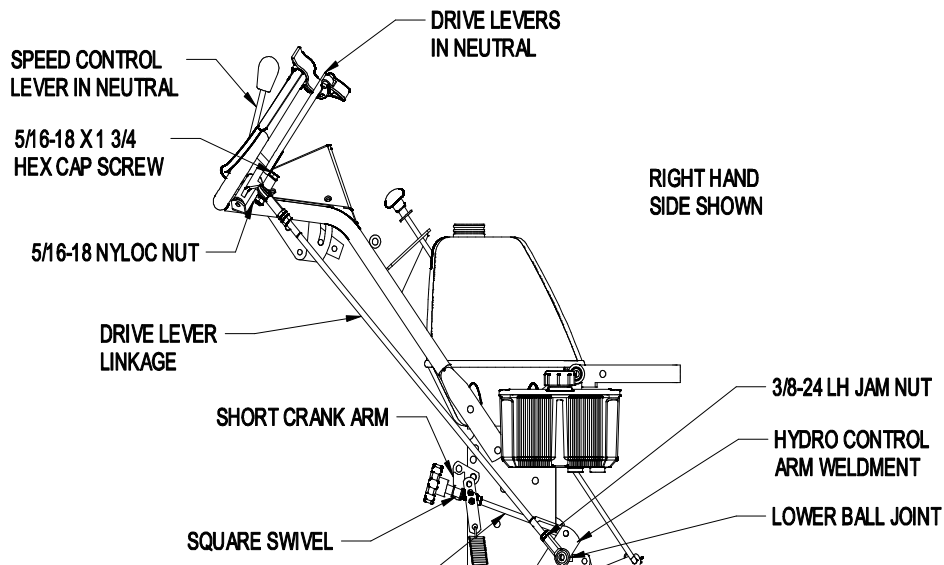
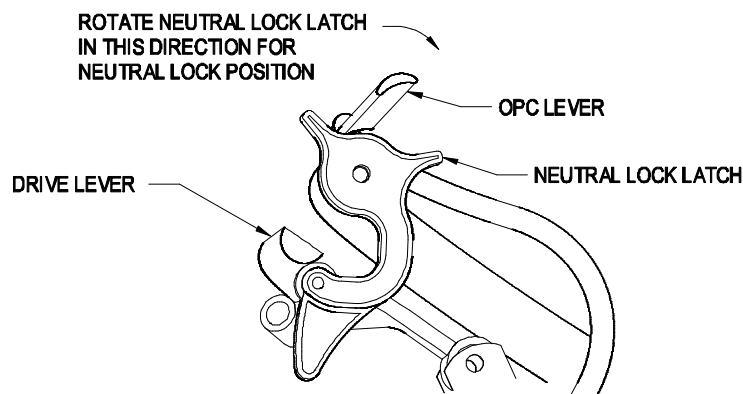
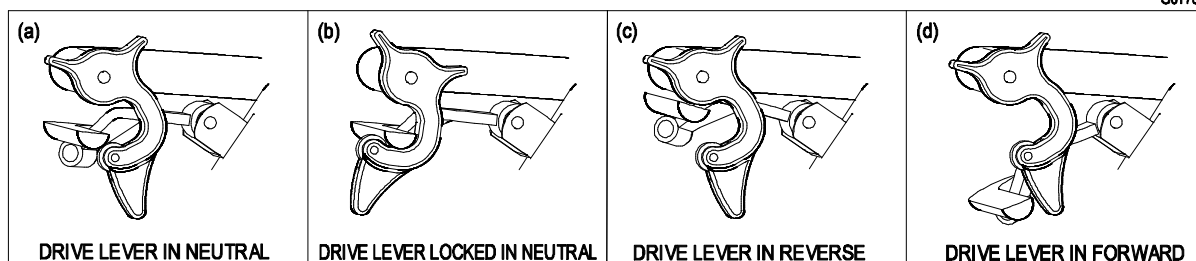

FIGURE 4
FIGURE 6
FIGURE 7
Install a 5/16" SAE washer and fasten with a 3/32" x 1/2" cotter pin from bolt bag. Repeat on opposite side of unit (See Figure 4).
Refer to figure 4. Position speed control lever in neutral. Position drive levers in neutral and engage the neutral lock latches (See Figure 7(b)). Drive lever linkages are shipped with upper ball joints installed. Thread a 3/8-24 LH jam nut, from the bolt bag, onto the lower end of each drive lever linkage. Identify the lower ball joints installed on hydro control arm weldments. Thread lower end of each drive lever linkage into the lower ball joint until hole in upper ball joint aligns with hole in drive lever. Install 5/16-18 x 1 3/4 hex cap screws and 5/8-18 nyloc nuts from the bolt bag and tighten. This will give an approximate setting for drive lever linkages; you will need to refer to Section 5.2.10 step d to complete the drive lever linkage adjustment.
- 4.1.2 Operator Presence Control (OPC) Levers: Located on the upper handle assembly directly above the handle grips (See Figure 6). **When these levers are depressed, the OPC system senses that the operator is in the normal operator's position. When the levers are released, the OPC system senses that the operator has moved from the normal operating position and will kill the engine if either the speed control lever is *not in the neutral* position or the *PTO is engaged*.**
- 4.1.4 Drive Levers: Located on each side of the upper handle assembly directly below the handle grips (See Figure 6). These levers individually control the speed and direction of each drive wheel. When the speed control lever is moved out of the neutral position and the neutral lock latches are moved into the drive position, as shown in Figure 7, and the drive levers are released, the drive wheels are engaged in the forward direction.
- 4.1.5 **Neutral Lock Latch:** Located at the end of the handles. The purpose of these latches is to allow the operator to lock the drive levers in a "neutral" position where neither of the drive wheels are engaged in either a forward or reverse direction. (See Figure 6).
To lock the drive levers in “**neutral lock**”, squeeze the drive levers to the “neutral” position See Figure 7 (a). (Do Not squeeze at the drive levers all the way back as this will cause the drive wheels to go into the full reverse direction). Place thumbs on the inner thumb lobe of the neutral lock latches and rotate them to the “neutral lock” position. See Figure 7 (b). Release the drive levers.
To place the drive levers in the “**forward**” position, slightly squeeze the drive levers while placing thumbs on the outer thumb lobe of the neutral lock latches (or the index finger on the front lobe) and rotate them from under the drive levers. **Slowly** and **carefully** release the drive levers. See Figure 7 (d).
To place the drive levers in the “reverse” position, squeeze the drive levers past the neutral position. See Figure 7 (c).
For reverse: Squeeze both drive levers into the reverse position. See Figure 7 (c).
4.3.6 To Stop: Squeeze drive levers back to the “neutral” position. See Figure 7 (a) Move neutral lock latches into the “neutral lock” position. See Figure 7 (b) and release drive levers. Move the speed control lever to the neutral position.